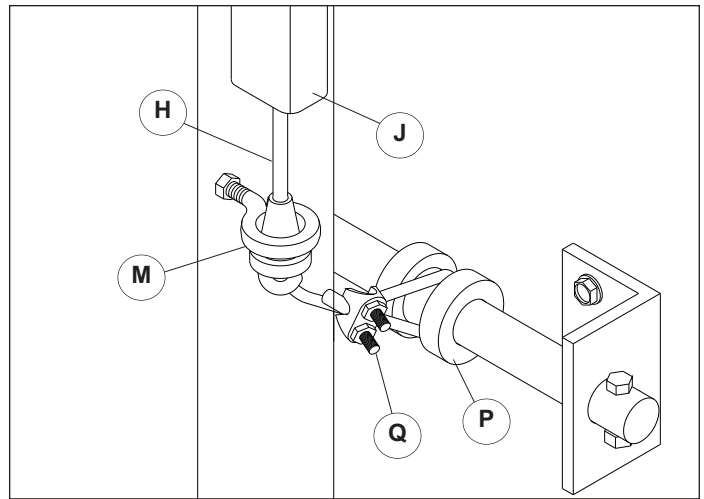
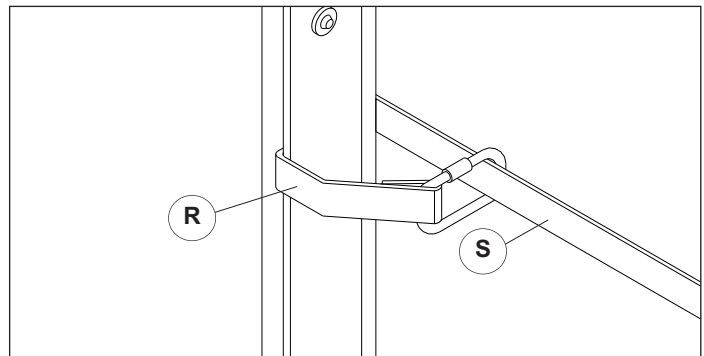
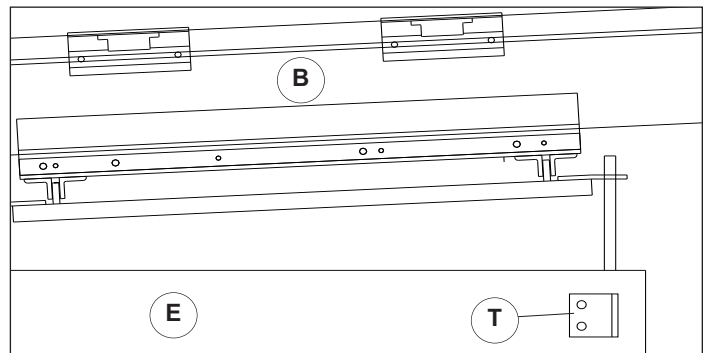

Figure 14.3
Figure 14.4
Figure 14.5
1. Fasten the spring loaded tube (J) on the side of the panel at the pre-marked holes (K) with the cord toward the floor, Figure 14.3.
2. Screw nut and eyebolt (L) into the tapped hole on the side of the panel. The panel eyebolt should be approximately 3 1/2" [89] above the center of the slide rod.
3. Cord (H) should be tensioned to maintain a 3 1/2" [89] gap from the panel to the wall. Repeat process for opposite side.
5. Insert cord thru the top of the eyebolt with eyebolt insert (N) facing up, pull 6" [152] of cord out, tie a knot below the eyebolt insert (M) and then wrap around the slide collar (P) and fasten with cable clamp (Q), cut excess cord.
6. Attach lead panel strap ring (R) to the follower panel retention strap (S), Figure 14.4.
7. Locate the right hand or left hand follower panel bracket (T) and the (2) 1/4-20 x 3/4" [6 x 19] allen head screws located in the parts box. When the door opens, the lead panel will catch the follower panel bracket and pull the panel open.
8. Mount the bracket to the upper outside corner of the follower panel, using the fasteners provided, Figure 14.5.